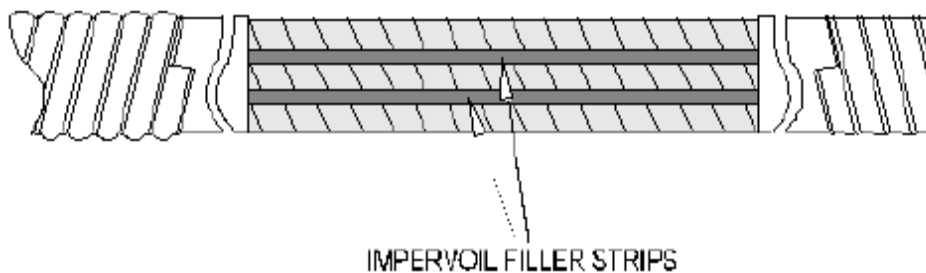

Figure 5-32: Placement of Impervoil filler strips
4. Cut four lengths of Impervoil filler strip. The strips should extend the full distance of the insulated conductors between the cut ends of the jacket. Place filler strips between the conductors and tube as shown in Figure 5-32.